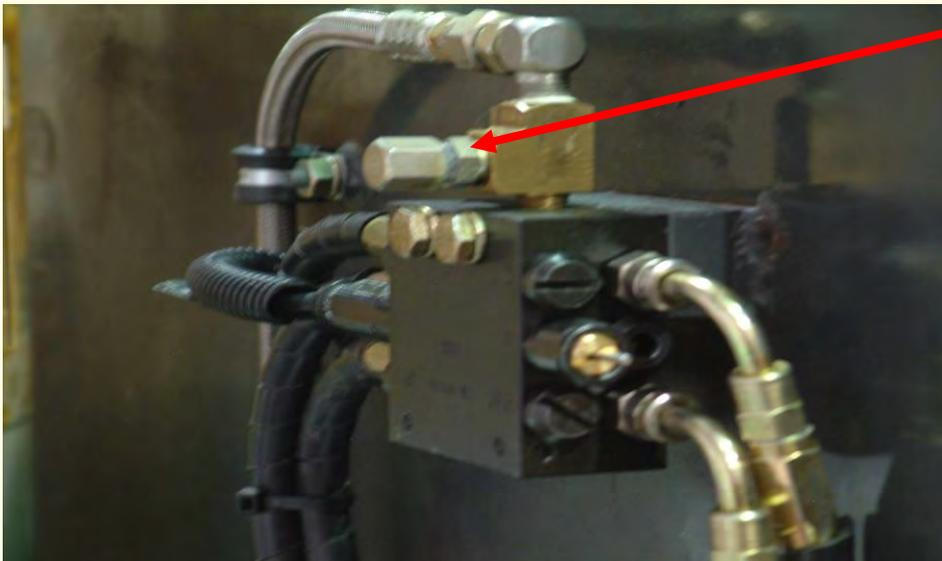

Fig. 20 - Piston detector
- monitored divider valve model SSV...-N with integrated piston detector, see fig. 20.
- If there is **no switching off signal** from the piston detector (fig. 20) to the printed circuit board within 30 minutes a **fault signal** will occur (see Display of the membrane key pad).